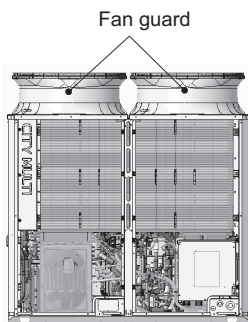

Figure 8
- (10) Remove the fan guard by unscrewing the 12 screws. (See Figure 8.)